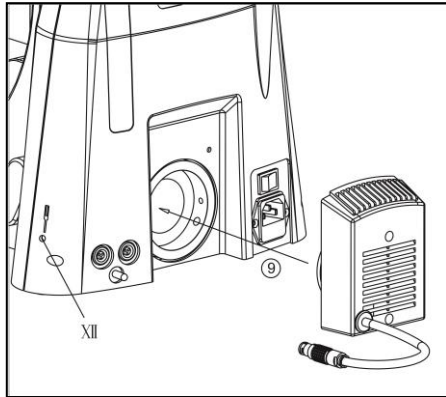

Fig 12
4-2-9 Install The LED Lamp Chamber(fig 12)
Insert the lamp box into the position at back of chassis base according to the path ⑨ shown in the figure 12.